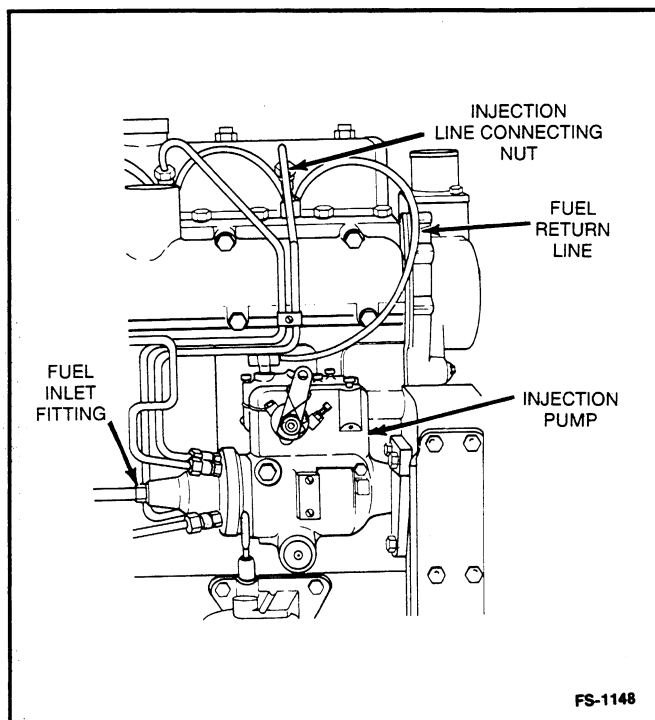

FIGURE 4-13. FUEL INJECTION PUMP
2. Loosen the fuel filter to injection pump line at the injection pump fuel inlet fitting (see Figure 4-13).
1. Loosen the fuel injection line connecting nut attaching each line to corresponding nozzle holder (see Figure 4-13).